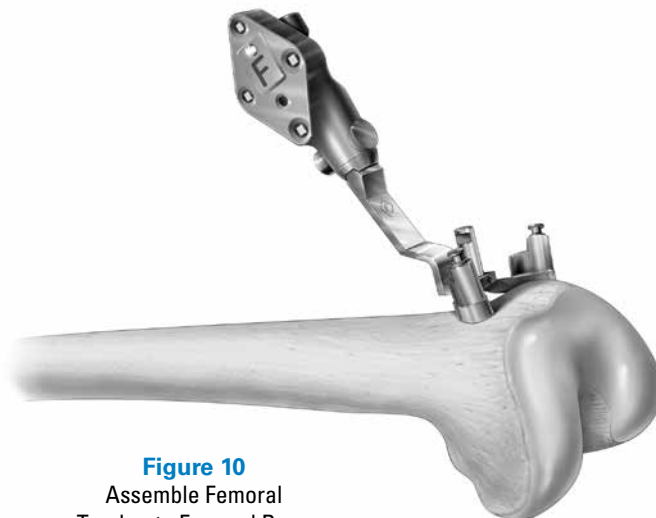

Figure 10
Assemble the Femoral Tracker (F) to the Femoral Base (Figure 10).